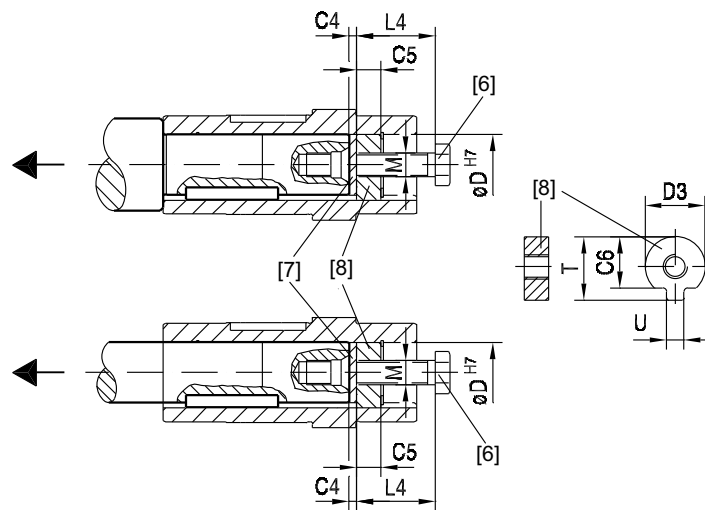

Figure 17: Removal
1. Loosen the retaining screw (6).
2. Remove the circlip (3) and, if used, the spacer tube (5).
3. According to Figure 17 place the forcing washer (7) and the locked nut (8) between the customer shaft (4) and circlip (3).
4. Re-install the circlip (3).
5. Re-install the retaining screw (6). Now you can force the gear unit off the shaft.